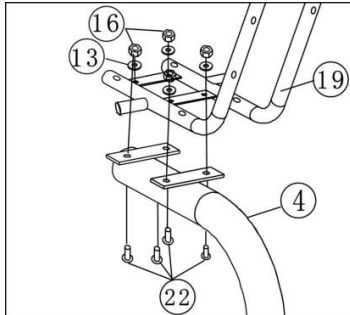

Figure 5
Attach the Seat cushion frame (19) with bolts (22),  $\varphi 8$  Flat washers (13) and M8 nylon nuts (16). (See figure 5) to the seat adjustor (4).